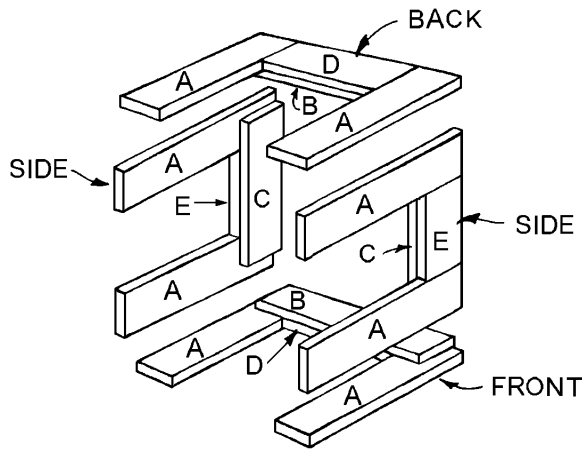

Figure 3
7. The next step is to join the front, back, and sides. Attach the two sides to the front as shown in *Figure 3*, making certain that the legs are flush on both the top and bottom. Then attach the back to complete the frame. The side assemblies overlap the exposed ends of the front and back assemblies. Wipe glue on the adjoining edges, and, to make a solid connection, place a screw about every 6 inches at each joint.